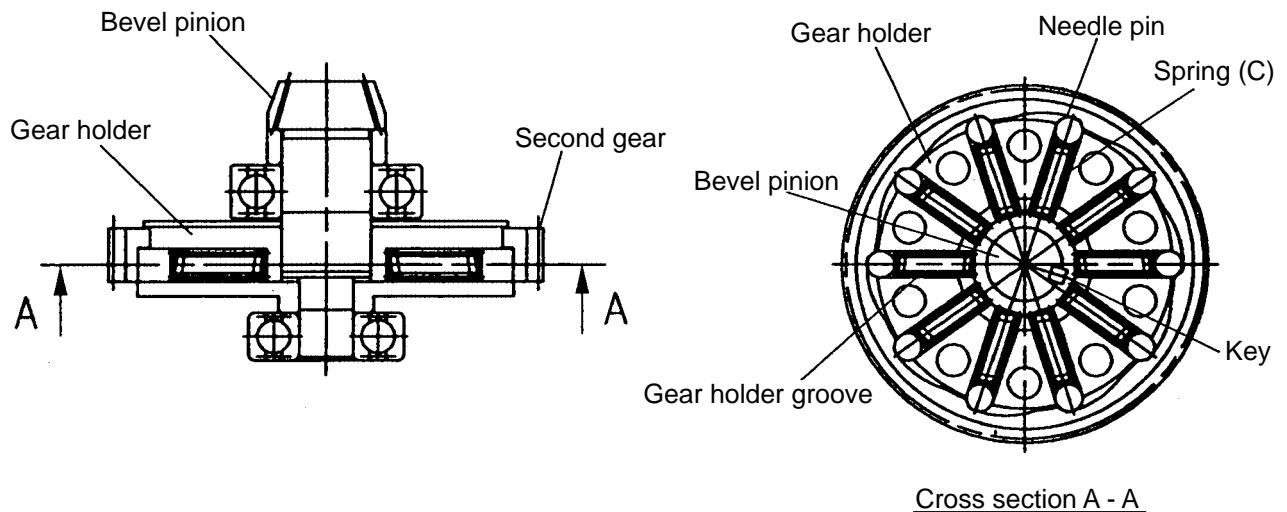

Fig. 6
The slip clutch mechanism is described below with reference to Fig. 6. The bevel pinion and the gear holder are coupled together by the key and press-fitting. Spring (C) and needle pins are housed in elongated grooves of the gear holder. The needle pin is pressed against the inner face of second gear by spring (C) to allow idle rotation of the second gear relative to the gear holder. When an excess torque is exerted on the bevel pinion shaft, the needle pin is raised upon the projection of the second gear against the load of spring (C) to allow idle rotation of the second gear. With the arrangement, the clutch slips when an excessive torque is applied to the working tool as when the drill bit contacts steel bar/wire in the concrete, protecting the operator from unexpected motion of the side handle.